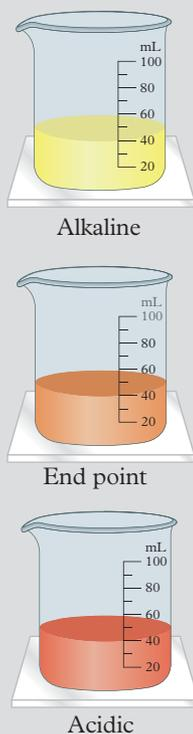

FIGURE 2 Methyl orange indicator in alkaline (left) and acidic (right) solutions. The middle solution demonstrates the end point.
- 9 Place the first conical flask under the burette and carefully open the stopcock. As the Na_2CO_3 mixes with the HCl solution, constantly swirl the flask to turn the red to orange. If the solution turns yellow, the titration has gone too far (see Figure 2). This end point can be difficult to observe. Take your time, use the white tile and be careful. Turn the stopcock so that the Na_2CO_3 solution is dispensed at a slower rate. When reaching the end point (colour change from red to orange), the tap should be slowly dispensing one drop at a time. The white tile will help you to observe this colour change.